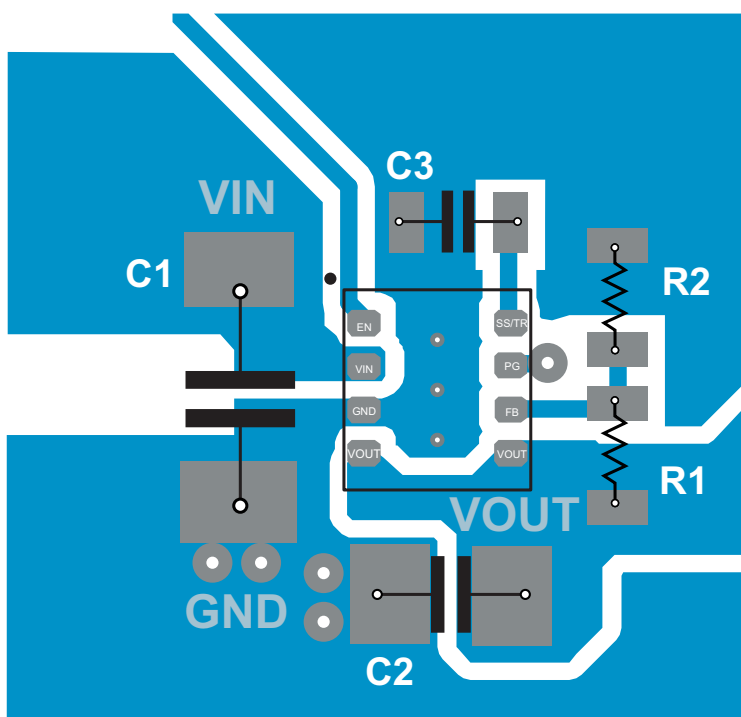

图 31. TPS82150 PCB Layout
- Refer to 图 31 for an example of component placement, routing and thermal design.